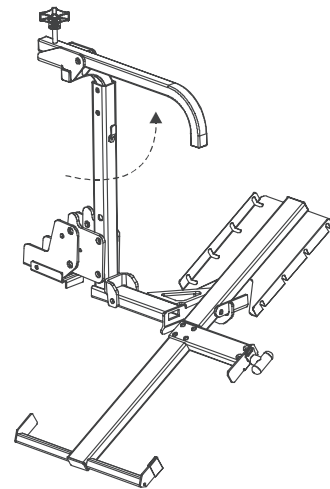

Figure 4-8
4. Flip the hold-down arm upright. *See Figure 4-8.*